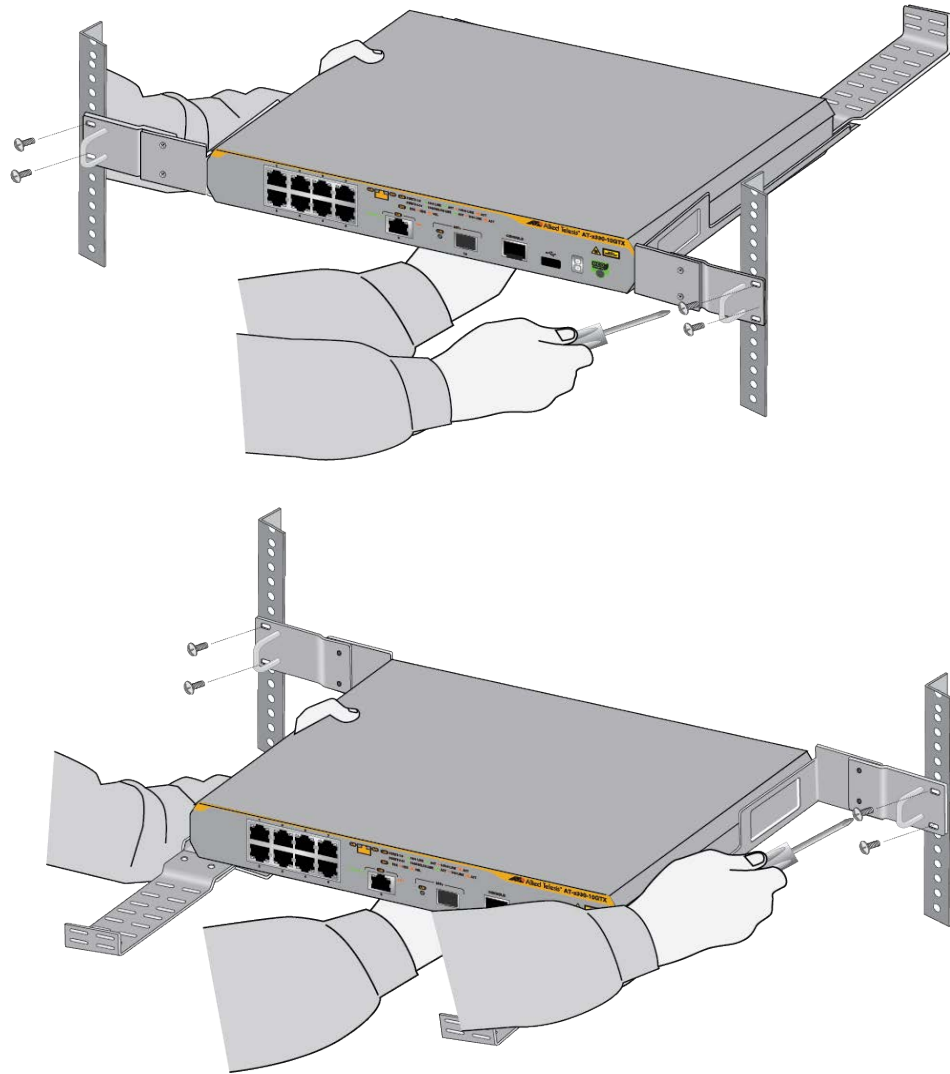

Figure 34. Attaching the x330-10GTX Switch to the Equipment Rack
8. Have another person hold the switch in the equipment rack while you secure it with four standard equipment rack screws (not provided). Refer to Figure 34.